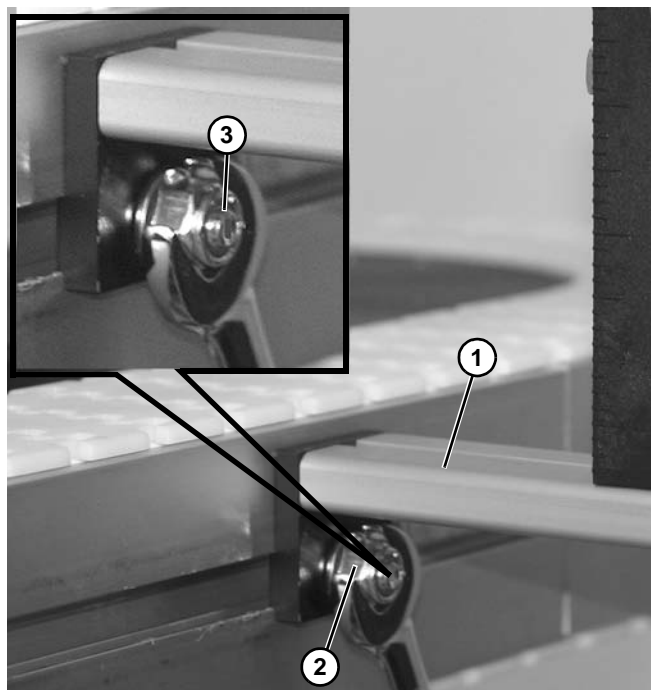

Figure 43
2. Tighten stud on guiding assembly (Figure 43, item 1) to conveyor with nut (Figure 43, item 2) on stud.
*Be certain that slot (Figure 43, item 3) is close to vertical when finished tightening nut.*
3. Tighten nuts (Figure 43, item 2).